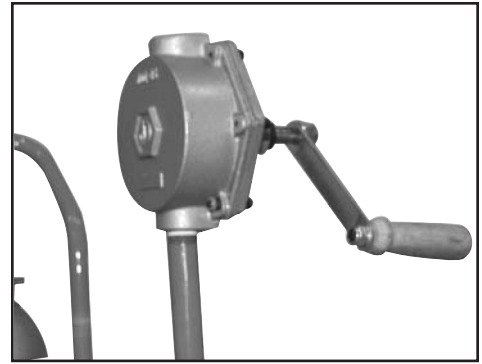

Fig 1
2. Thread the pump (inlet port) to the 3/4" pump stand (top, rear) and tighten. **(See Fig. 1)**